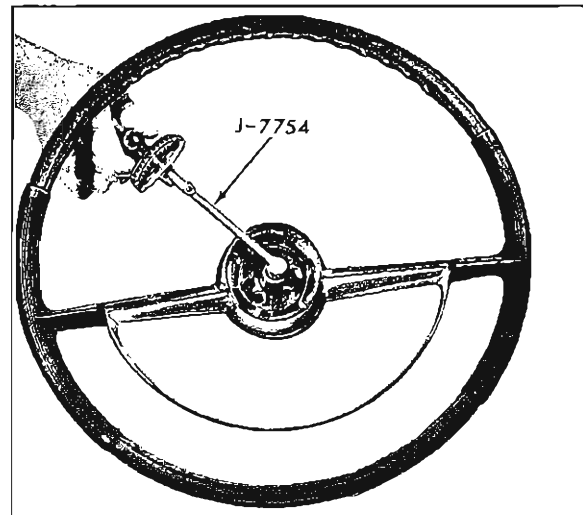

Fig. 9A-5 Checking Steering Gear Adjustment
3. With inch pound torque wrench attached to a 5/8"-12 point socket, measure and record readings taken from the following steering gear positions. See Fig. 9A-5.
**NOTE:** If the reading for "a" is not in specifications, correct adjuster plug bearing preload as follows: Loosen adjuster plug lock nut, using drift or similar tool, and move flexible coupling (by turning steering wheel) as necessary to permit installation of tool J-7624 on adjuster plug (Fig. 9A-10). Tighten plug as required to obtain proper reading (3-5 lb. in.) and tighten adjuster plug bearing preload in "a" and the torque reading in "b" is not within specification, then DO NOT remove gear assembly to refit rack-piston balls unless a complaint of loose steering is received. Upon such a complaint, a thrust adjustment ("a") and over center adjustment ("c") should correct the problem if it lies in the steering gear.